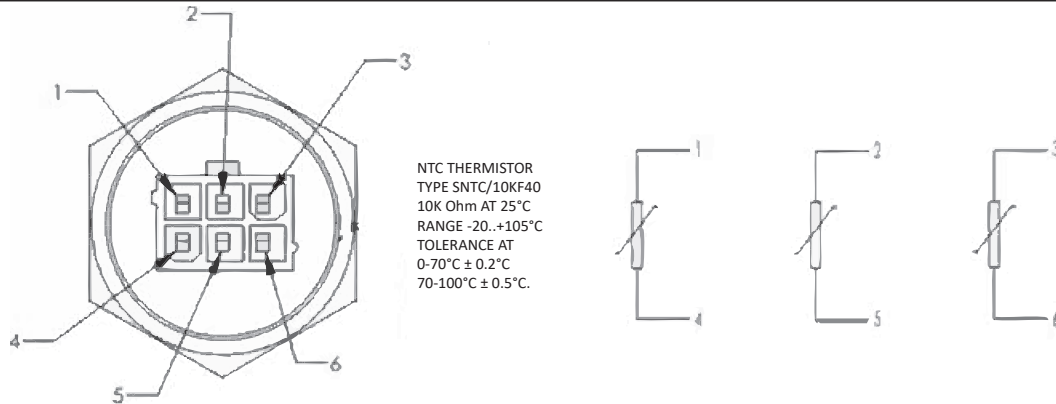

Figure 18. Main Temperature Probe
2. Check probe's resistance. For Main Temp Probe, you will need to check each NTC. See pin layout in **Figure 18**.
4. Check resistance between the two inside pins (black wires/Pins 1 & 4) of the plug end from the Temperatures Probe. See **Figure 18**.